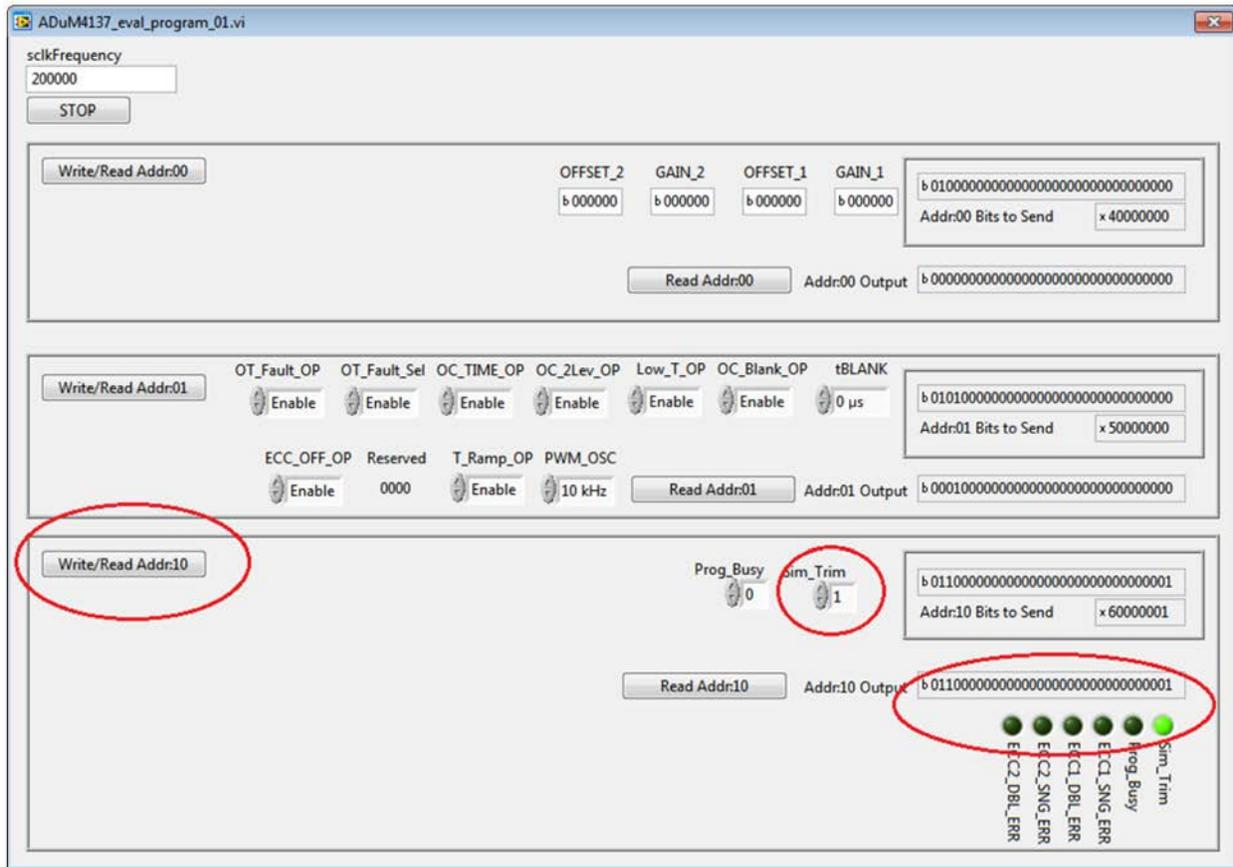

Figure 12. Setting the SIM\_TRIM Bit
1. Set the SIM\_TRIM bit by typing 1 in the **Sim\_Trim** box, and click **Write/Read Addr:10**. This setting results in the green **Sim\_Trim** indicator lighting up (see Figure 12). When the SIM\_TRIM bit is set to 1, the write commands to Register Address 00 or Register Address 01 affect the operation of the ADuM4137.